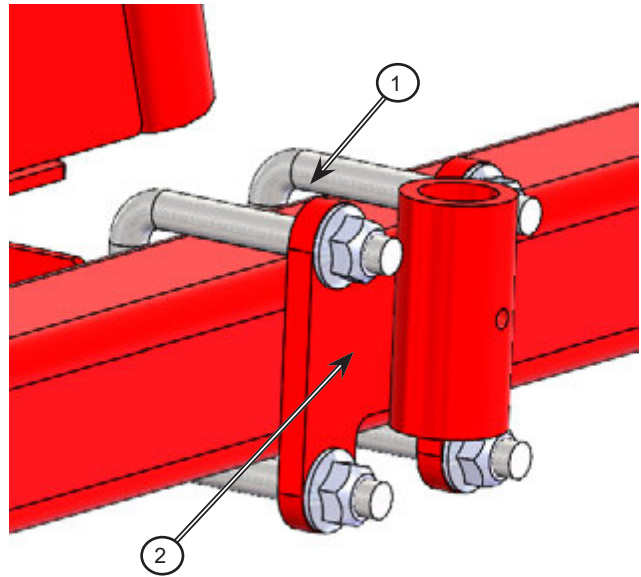

Figure 4: Install the scale head mount bracket
2. Install the scale head mount bracket onto the LH or RH platform side rail; see *Figure 4*.
- a. Place 2 U-bolts (1) around the platform side tube and fasten the scale head mount bracket (2) in place using $\frac{1}{2}$ " flange lock nuts.